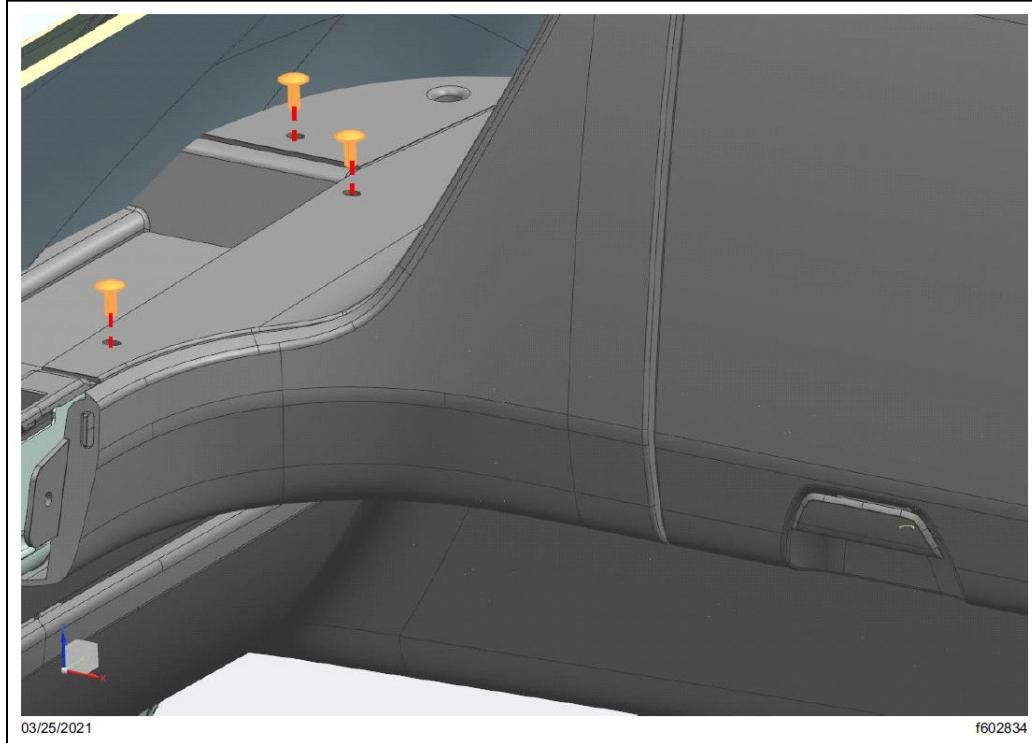

Fig. 51, Fasteners That Attach the RH Overhead Storage Assembly to the Storage Shelf Flanges
9.2. Remove the three fasteners that attach the RH overhead storage assembly to the storage shelf flanges. See Fig. 51.